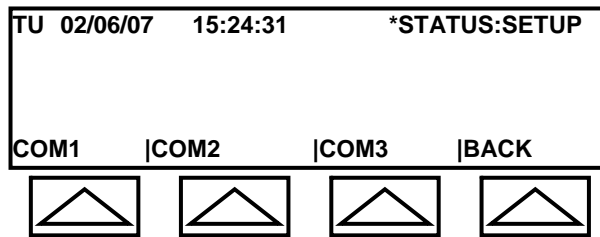

Fig. 4-14b: Serial Submenu
The screen will appear as in Figure 4-14b.
1. Select COM1 in the Serial Submenu (see Figure 4-14b).
The LCD displays the Serial Submenu (see Figure 4-14b).
1. Select COM2 in the Serial Submenu (see Figure 4-14b).
The LCD displays the Serial Submenu (see Figure 4-14b.
1. Select COM3 in the Serial Submenu (see Figure 4-14b)